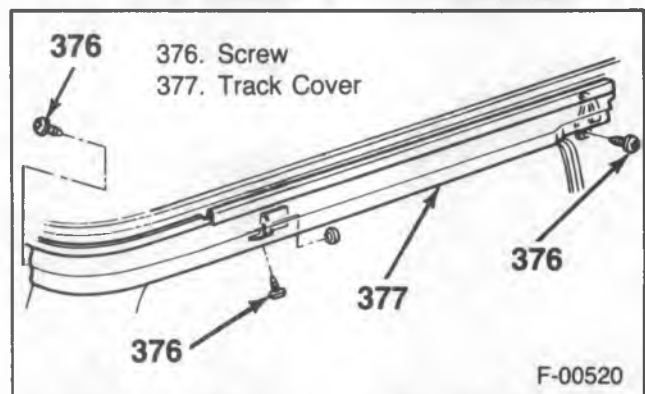

Figure 90 — Upper Track Cover
↔ Remove or Disconnect (Figures 90 through 94)
↔ Install or Connect (Figures 90 through 94)
- 2. Track cover (figure 90).
- 3. Hinge retainer plate (393).
- 4. Nut (390), washer (389), and retainer (380).
- 5. Hinge to door screw (391).
- 6. Hinge to door bolt (388).
2. Hinge to door bolt (388).
3. Hinge to door screw (391).
4. Retainer (380), washer (389) and nut (390).
5. Hinge retainer plate (393).
6. Track cover (figure 90).